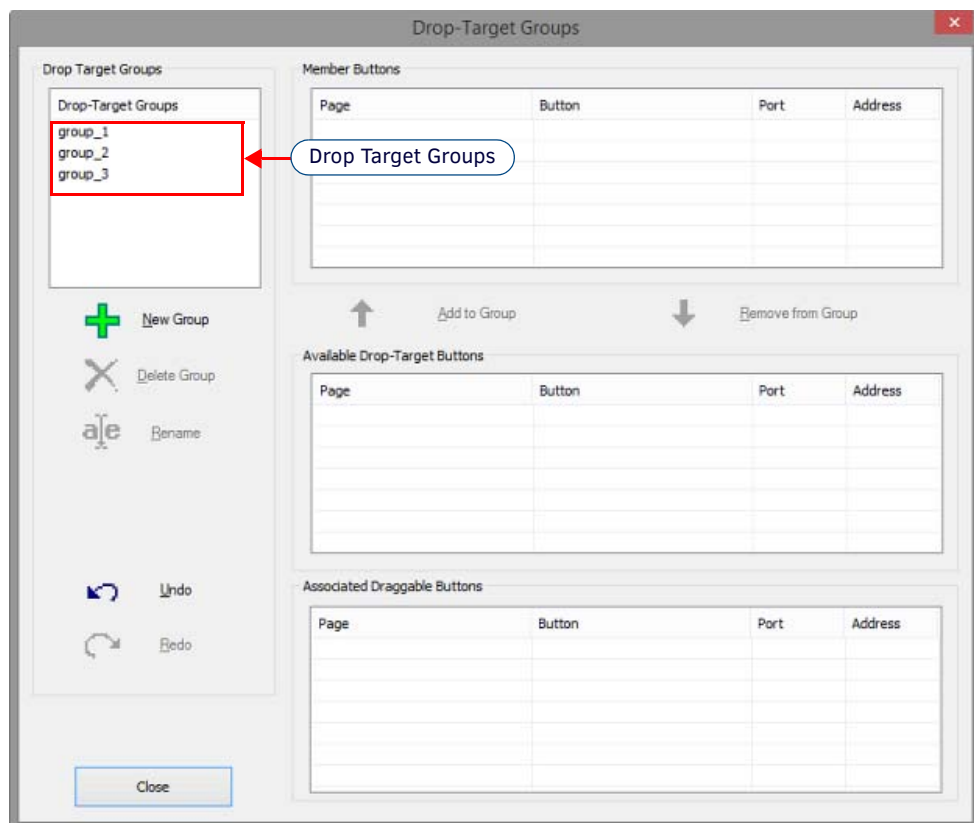

FIG. 265 Drop-Target Groups dialog - indicating "group_1", "group_2" and "group_3"
- d. The new Groups are indicated in the *Drop Target Groups* window (FIG. 265):